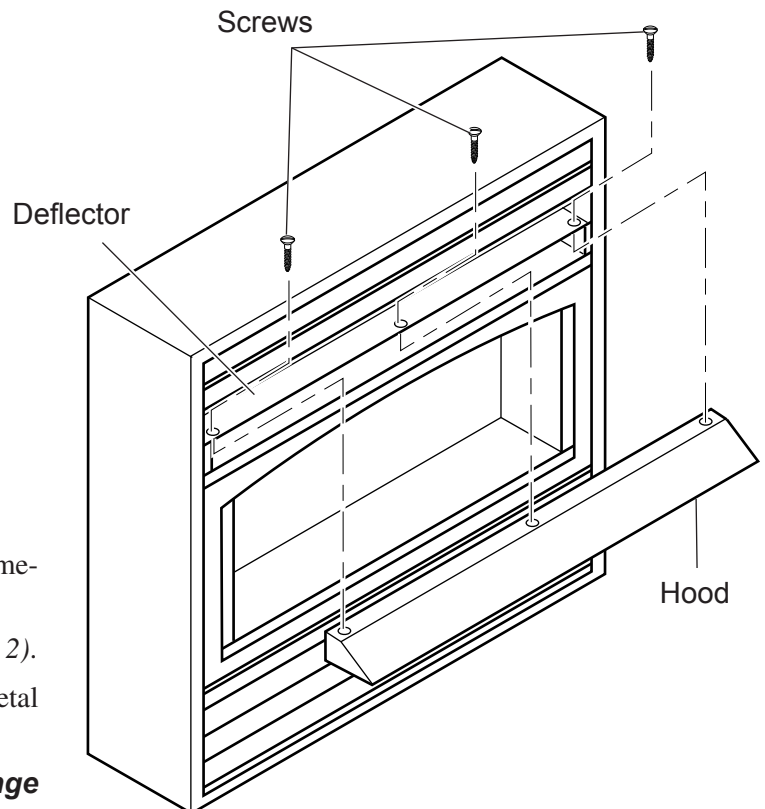

Figure 2 - Installing Hood
2. Locate three (3) black sheet metal screws inside homeowner's manual pack.
3. Place hood on deflector and line up holes (see Figure 2).
4. Secure hood to deflector with three (3) black sheet metal screws.